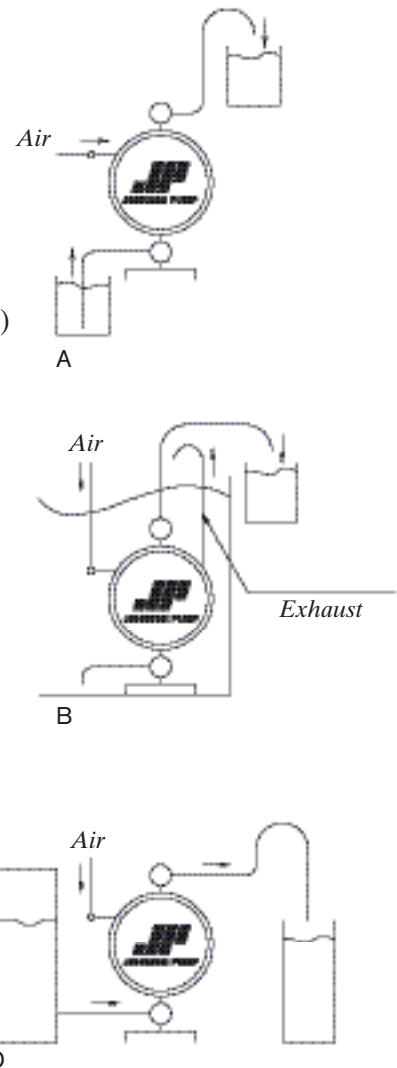

Fig 4.1
- 1) Decide where the pump should be installed in a secure and suitable space (see Fig 4.1 A to D).